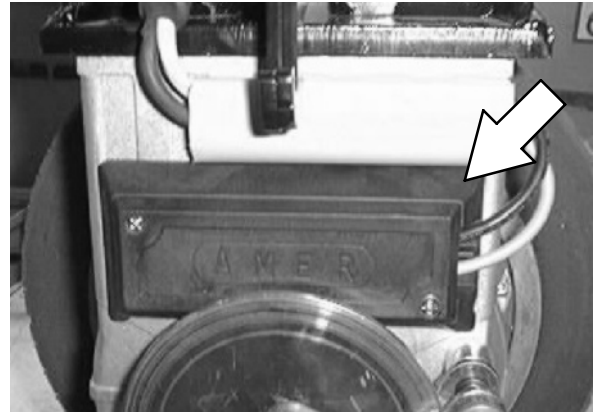

FIG. 20
31. Reinstall the power wire cover onto the side of the drive assembly. Refer to Fig. 20.